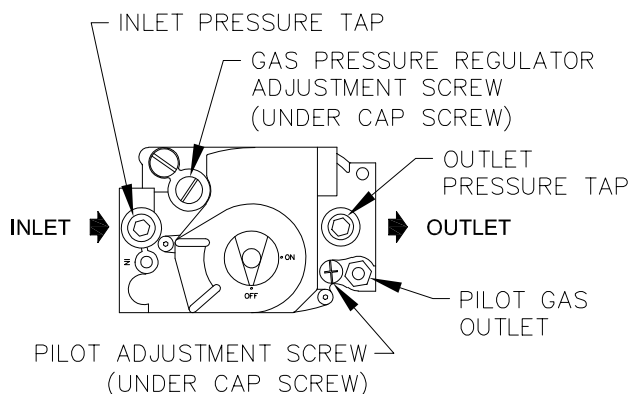

Figure 8.2: Valve Tapping and Adjustment Screw Locations
2. To adjust gas pressure, turn adjusting screw of gas pressure regulator counterclockwise to decrease pressure, clockwise to increase pressure. Refer to Figure 8.2 for location of gas pressure regulator. Replace the cap screw when adjustment is complete.